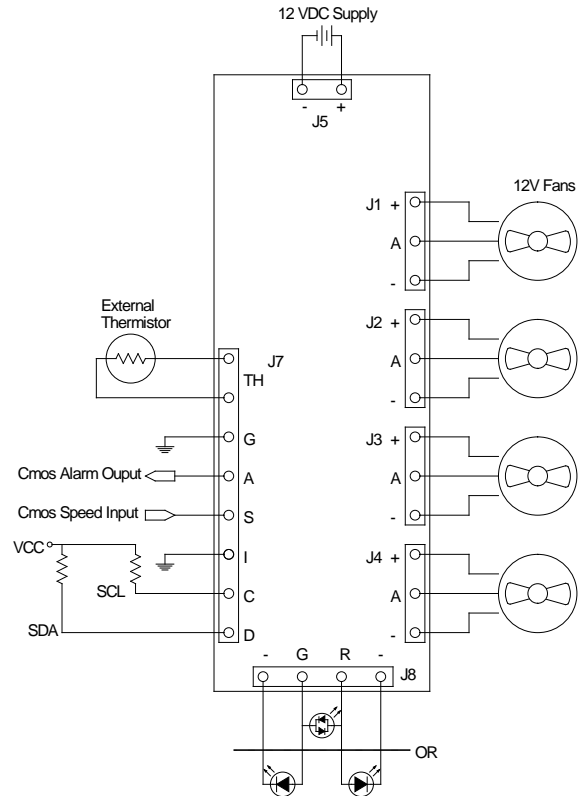

FIGURE 2: Vortex Connection diagram
The Vortex distributes power to and monitors the tachometer signals from four three-wire fans. Referring to Figure 2, connect the fans to headers J1 through J4. Common wire color codes are red for +, black or blue for - and white or yellow for tachometer signal (A). Fan current at each fan header must not exceed 4.0 Amps. Total current required by the fans connected to the Vortex must not exceed 5.0 Amps (still air) at 12 VDC. When connecting fewer than 4 fans it will be necessary to disable empty fan headers through the I2C for proper alarm function.
Refer to Figure 2 for input power wiring. Connect 9.6 – 14.4VDC power to header J5. **Soft Start:** The voltage applied to the fans at start-up ramps to the nominal supply voltage then shifts to the commanded voltage. This “soft start” feature limits the current spike common to DC fans at start-up. Note: A 7.5 Amp re-settable input power fuse is provided to protect the Vortex from over-current conditions.
The Alarm output (Pin A) is a push-pull CMOS output based on the VCC setting with a 562 Ohm limiting resistor. The output is set to VCC when there is no alarm and Ground during any alarm condition. The output is current limited by a 600Ω drive impedance. Referring to Figure 2, connect logic circuits to header J7. **All alarm circuits on header J7 are non-isolated from input power (J5).**
A non-isolated input is located at J7 that allows the user to command the fans to full speed when a ground level is applied. If this input is set to VCC or open then the speed is set by its normal operating mode. Refer to Figure 2 for wiring details.